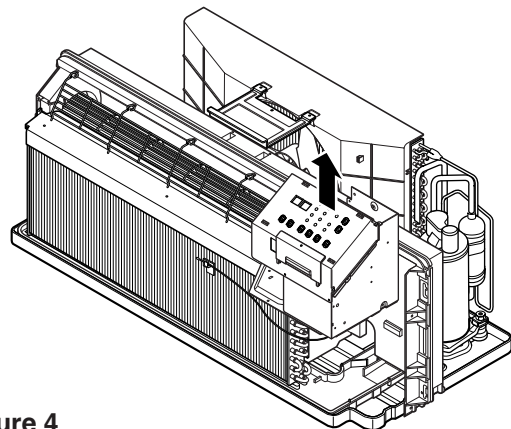

Figure 4
6. Pull the control box assembly out from the unit. (See Figure 4)